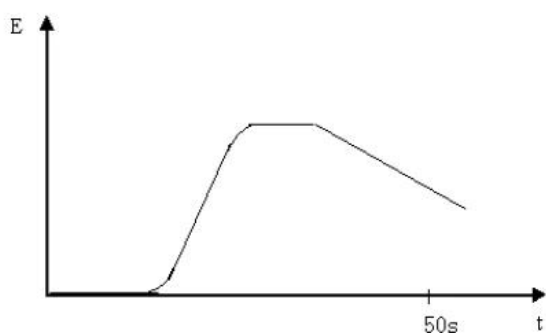

Figure 27
7. When the standard sample injecting or sample analyzing, the sample has incomplete combustion as Figure 27, there are less or more carbon left at the entrance of the quartz tube or ground elbow, the below method will be adopted to prevent the system pollution.